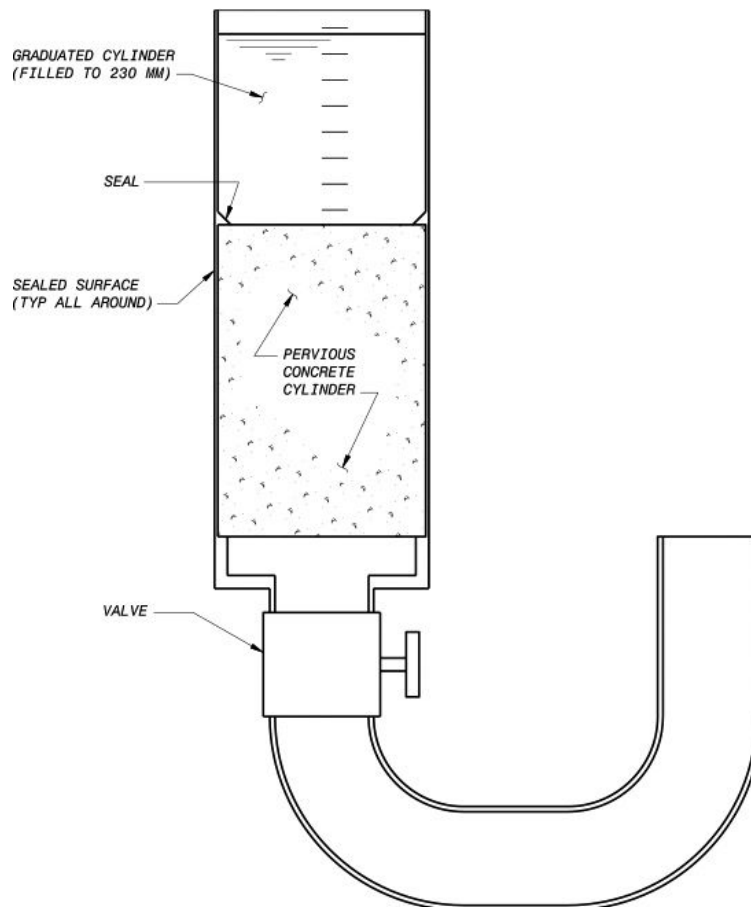

FIGURE 1 - PERMEABILITY TEST SETUP
This competition uses a falling-head permeameter method, see Figure 1. A picture of a similar (but not exact) falling-head permeameter test setup may be obtained in ACI 522R-06 "Pervious Concrete." A parts list used in the permeameter is also available upon request. General information on pervious concrete can be obtained from ACI 522R, ACI 522.1, and ACI 211.3, Appendix 6. Note: ACI documents are available to student chapters in the MCP online through the local chapter.
- iii. Each entry will be tested for permeability using a falling-head permeameter test setup, see Figure 1. A similar (but not exact) example of a falling-head permeability test can be found in ACI 522R-06 Figure 4.7. With the valve closed, water shall be poured into the graduated